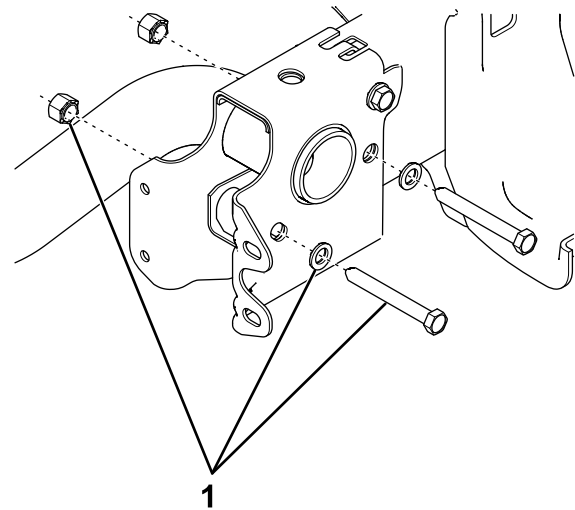

Figure 1
2. Remove and retain the fasteners from the vehicle frame shown in Figure 1.